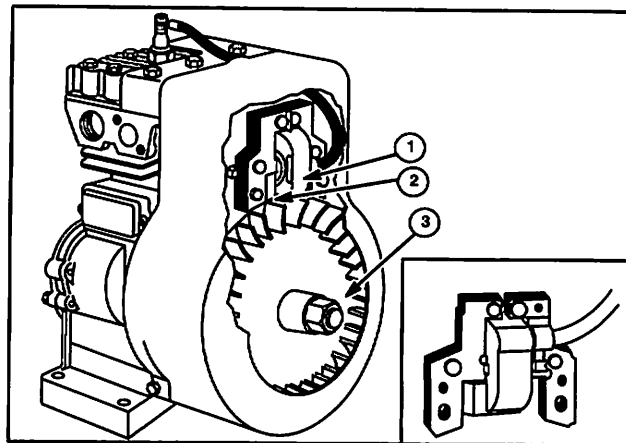

Fig. 1
1. Magnetron® ignition, a self-contained transistor module (2), ignition armature, (1) and flywheel (3), Fig. 1. Inset: current style